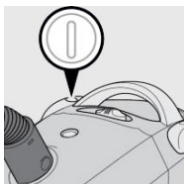

Figure 9
1. The vacuum cleaner can be carried by the handle (Figure 9).
Note: During cleaning, the bypass valve (Figure 9) must be completely closed. You can quickly reduce suction power to release objects (e.g. curtains) that have been vacuumed inside.